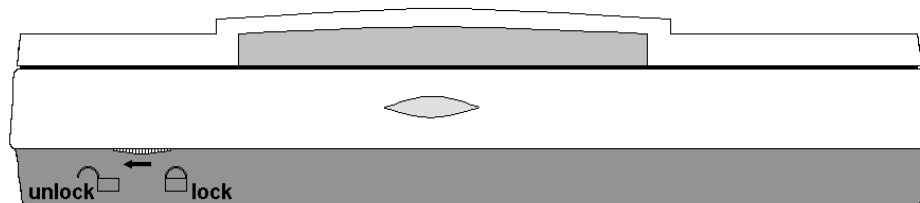

Figure 1: Unlocking the transport locks
2. The first lock is on the front of the scanner. Slide the lever to the left to unlock (Figure 1).